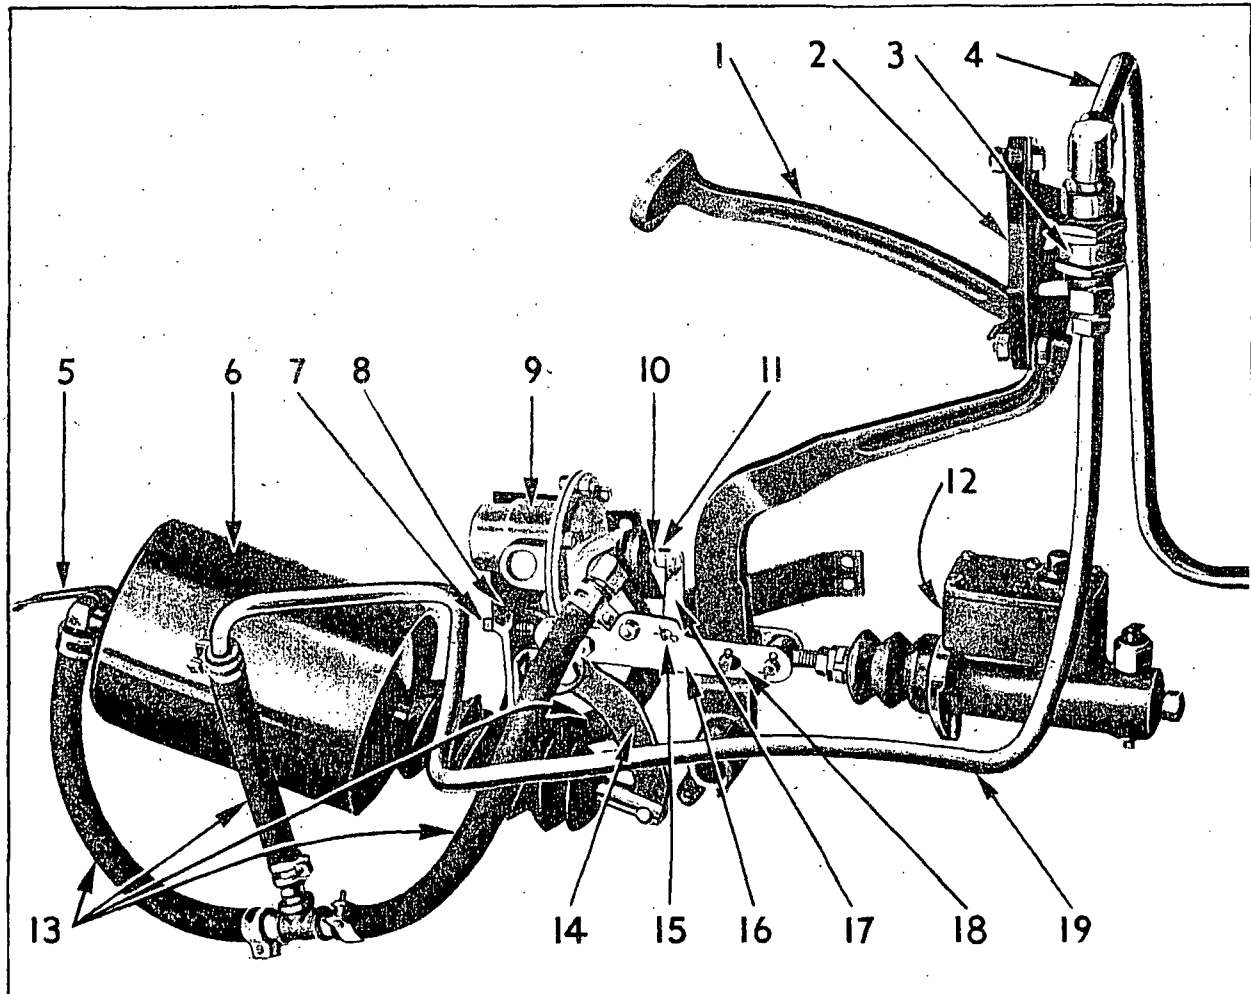
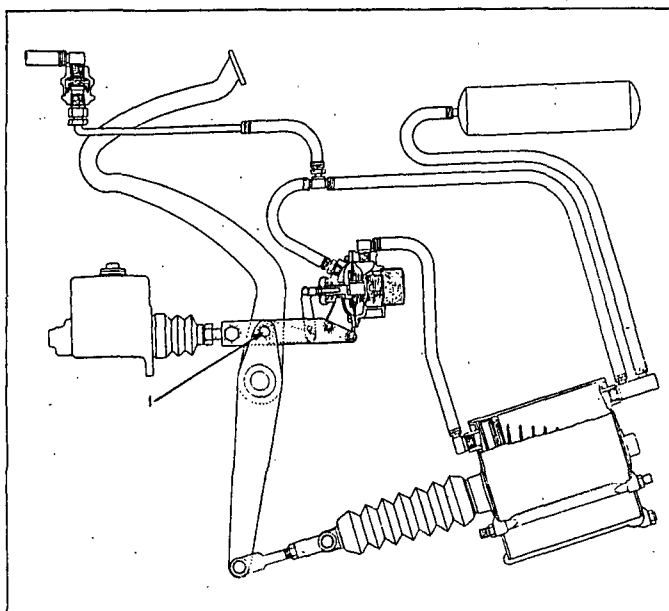
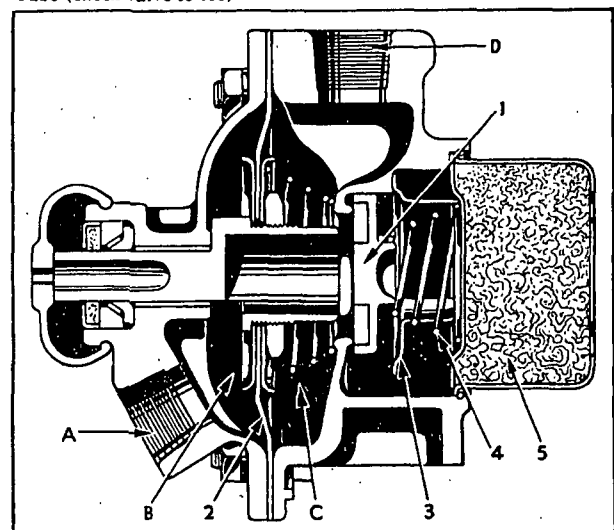
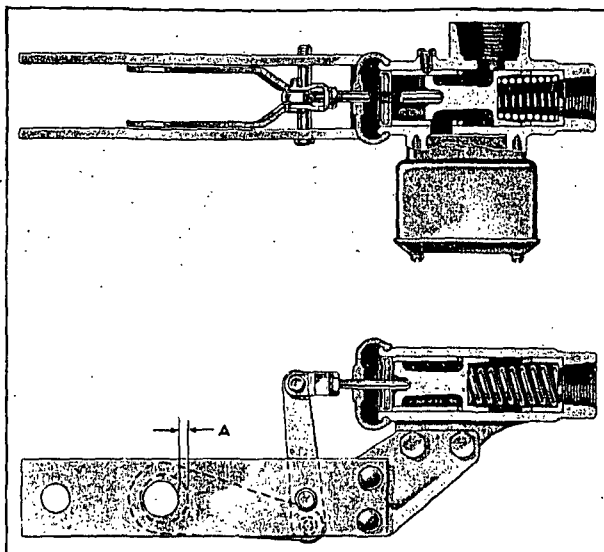

Fig. 82 Booster Brake.
Fig. 83 Booster Brake System (Diesel Trucks)
Fig. 84 Booster Brake Control Valve.
Fig. 85 Booster Brake Control Valve (WK, WL)
The compensating type control valve (Fig. 84)
is illustrated in the "off" position. The vacuum line from the engine is connected through a tee directly to one side of the booster cylinder and through the control valve to the other side of the booster cylinder. When the control valve is in the "off" position, the connection from the booster cylinder to the engine (pump on Diesel trucks) is made through a passage in the center of the control valve diaphragm. In this position, vacuum is maintained on both sides of the diaphragm (B and C, Fig. 84) of the control valve and on both sides of the piston in the booster cylinder. Booster application is controlled as follows:
The first motion of the brake pedal moves the linkage connected to the piston in the control valve through the length of the elongated hole (18, Fig. 82 and 1, Fig. 83) in the control valve bracket. This causes the control valve piston to move into the valve body, first closing the passage in the center of the control valve diaphragm, so that vacuum is no longer maintained on the front side of the booster cylinder piston. Further movement of the control valve piston opens the air intake valve (1, Fig. 84), allowing air to rush in through the control valve air cleaner to the front of the piston in the booster cylinder. This causes the booster cylinder piston to move toward the rear of the cylinder assisting brake application.
On Models WK and WL, booster application is controlled as follows: A piston operating in the cylinder of the control valve opens and closes ports for withdrawing and admitting air to the front end of the booster cylinder. The first movement of the piston in the control valve closes the port through which vacuum is created in the front end of the booster cylinder. Further movement of the control valve piston opens the port which allows air to rush in through the control valve air cleaner to the front of the booster cylinder piston. The booster cylinder piston then moves to the rear of the cylinder assisting brake application. (See Figure 85).
2. Lift out curled hair and clean in kerosene. On all models except WK, WL, care must be used when installing the air cleaner to make sure that the prongs of the valve stop plate (3, Figure 84) are seated squarely in the recess of the air cleaner screen to prevent bending the valve stop plate prongs.
1. Adjust the operating lever stop screw (7, Figure 82) so that the brake pedal just clears the underside of the toe board. The purpose of this adjustment is to bring the pin in the brake lever to the rear of elongated slot in the control valve link (18, Figure 82).
piston against the forward end of the cylinder. After making the adjustment, the clearance at the sleeve in the pedal should be on the rear side of the pin (1, Figure 83 and A, Figure 85).